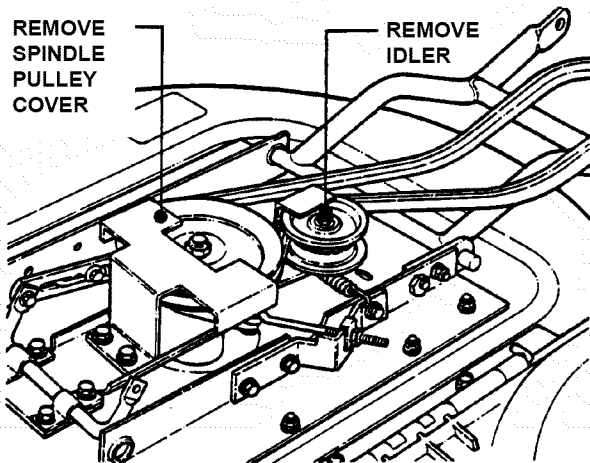

FIGURE 4.37
4. Remove deck belt idler pulley and spindle pulley cover. See Figure 4.37.